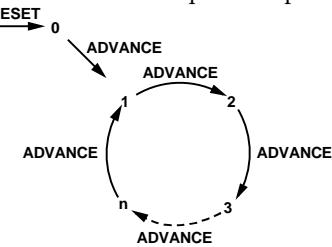

Figure 28. State Machine Position Loop
Figure 28 shows how the state machine pointer moves through a loop. In this diagram, n is the total number of states inside the loop. Because the sequencer depth bit field is 0 indexed, n is equal to one more than the value of the bits in the sequencer depth.
- Bit 0 to Bit 3: MULT_STATES. Sets the number of states in the loop (see Figure 28).
Register 0x017 contains Bit 0 to Bit 6, TX_STATES, which sets the number of states in the loop (see Figure 28).